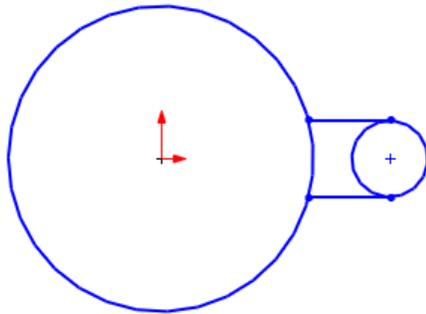

Figure 3-6 Sketch after drawing the lines
18. Right-click in the drawing area and choose the **Select** option from the shortcut menu to exit the **Line** tool. Figure 3-6 shows the sketch after drawing the horizontal lines.